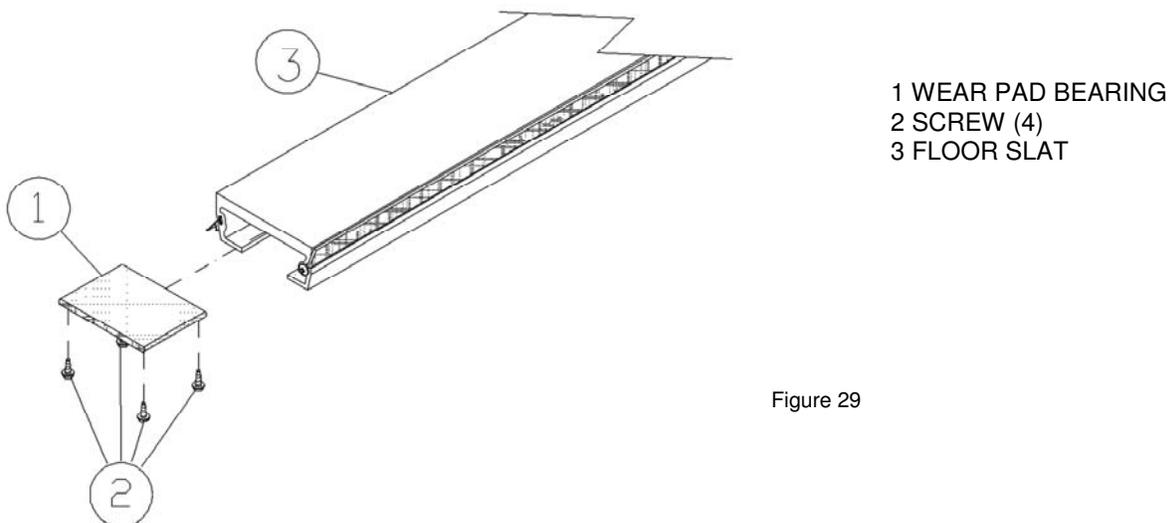

Figure 29
4. Attach drive-in wear bearing in slat/plank (Figure 29).